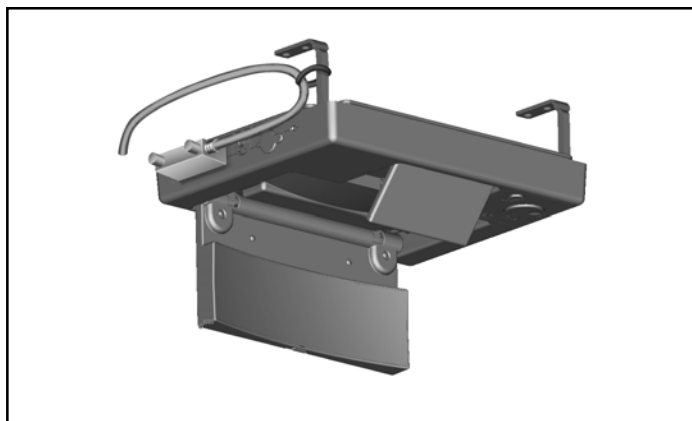

Figure 2 Friction Hinge Mount (Visor)
**Friction Hinge Mount (Visor)** - the display pivots on a pair of friction hinges (similar to a vehicle sun visor). The friction hinge mount allows for the sun visor to be used during the day and the XVision® System to be used during the night. See Figure 2.